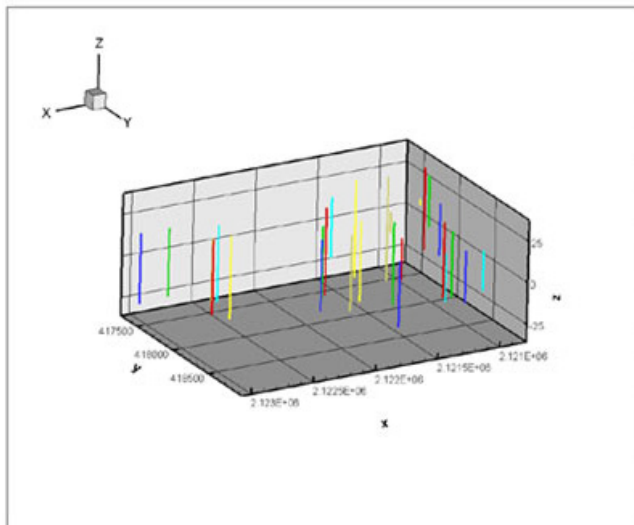

Figure B-5. The Excel well data plotted in Tecplot Focus.
3. Switch to 3D Cartesian plot mode to see the location and measurement depths of the well samples. The resulting plot is shown in Figure B-5.